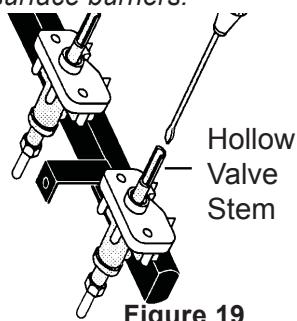

Figure 19
- e. Insert a thin-bladed screwdriver into the hollow valve stem and engage the slotted screw inside. Flame size can be increased or decreased with the turn of screw. Turn counterclockwise to increase flame size. Turn clockwise to decrease flame size (Figure 19). Adjust flame until you can quickly turn knob from LITE to lowest position without extinguishing the flame. Flame should be as small as possible without extinguishing.
4. Remove template and place bracket on floor. Line up holes in bracket with marks on floor and attach with 4 screws provided. Bracket must be secured to solid floor (Figure 19). If attaching to concrete floor, first drill 3/16" (0,48 cm) dia. pilot holes using masonry drill bit.